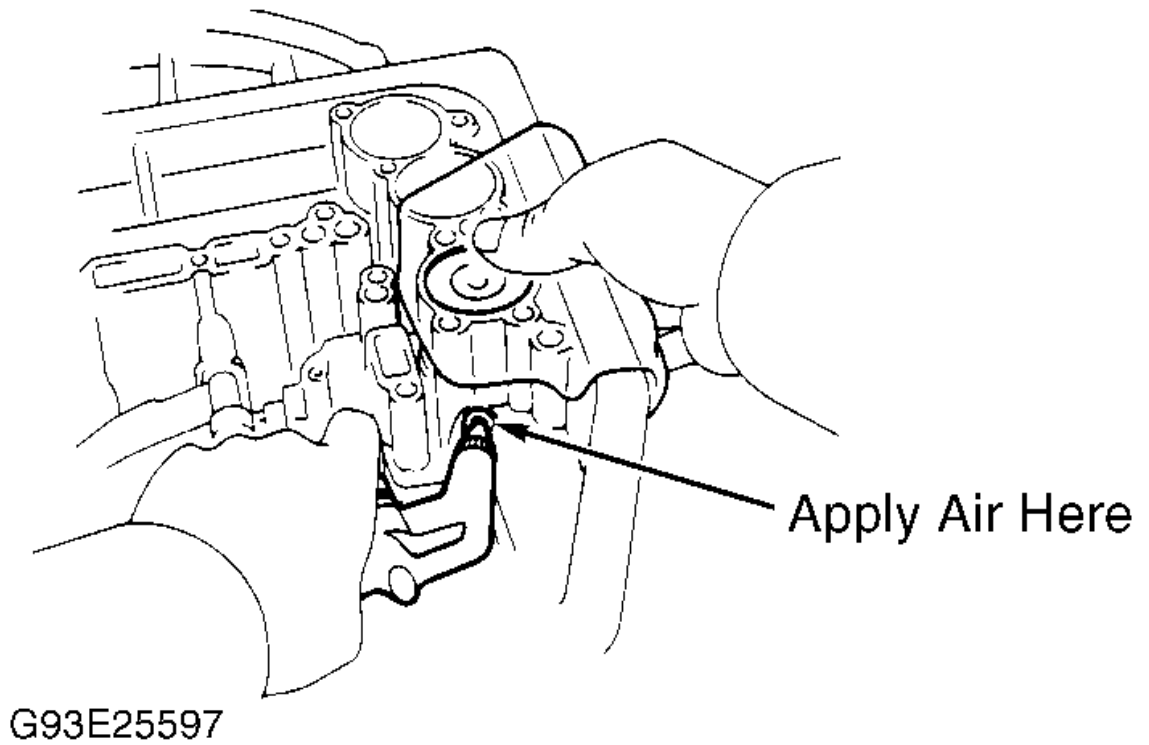

Fig. 16: Removing 2nd Brake Accumulator Piston & Spring
6. Apply 14 psi (1 kg/cm²) of compressed air to oil passage to remove 2nd brake accumulator piston and spring. See Fig. 16 .
4. Apply 14 psi (1 kg/cm²) of compressed air to oil passage to remove 2nd brake accumulator piston and spring. See Fig. 16 .